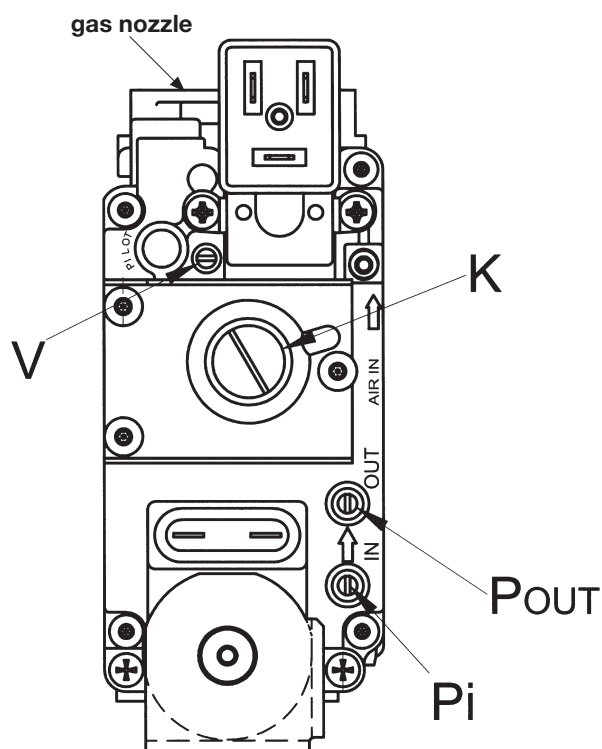

Figure 12a
13.1 SINGLE GAS VALVE MODELS (POWER HT 1.850 AND 1.1000) FIGURE 12a
- For models with one valve, replace the diaphragm on the gas valve outlet (figure 12a).